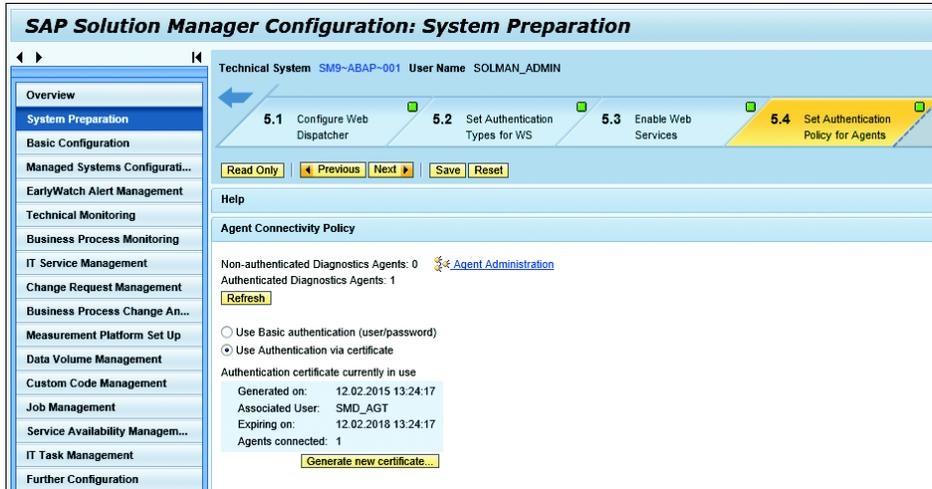

Figure 11 Configure Certificate Authentication Policy
2. Update all diagnostic agents to use a certificate-based authentication policy. Activate the authentication method within SYSTEM PREPARATION under step 5.4 SET AUTHENTICATION POLICY FOR AGENTS (see Figure 11). If any agents fail to migrate, navigate to the Diagnostic Agent Administration portal by way of the URL `http(s)://<Solution Manager Java Host>:<port>/smd/AgentAdmin`. Go to the CONNECTED AGENTS tab and click the CREDENTIALS button.